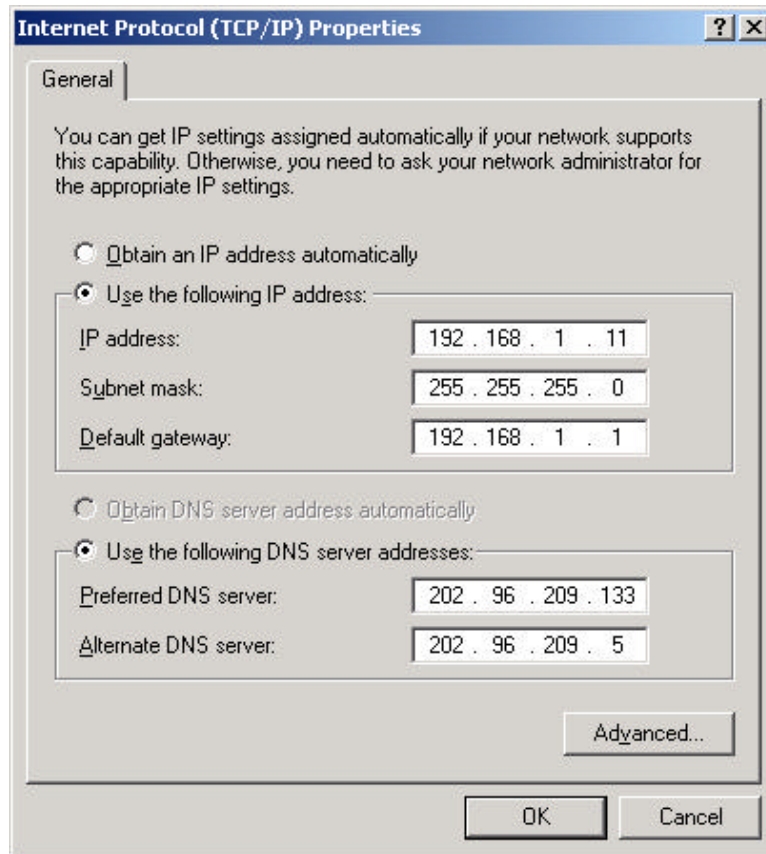

Figure C.3
3. The “**Internet Protocol (TCP/IP) properties**” pop up window is shown as Figure C.3. Select “**Use the following IP address**”. Input the following IP address: 192.168.1.11 and subnet mask: 255.255.255.0 (These addresses and subnet mask are similar with the factory default setting. The user can set different IP address and subnet mask whenever necessary). Select “Gateway”, input the default IP address of the gateway: 192.168.1.1 and IP address of Preferred DNS server: 202.96.209.133 (you can use your ISP’s address), IP address of Alternate DNS server: 202.96.209.5 (you can use your ISP’s address). The result is shown in Figure C.3.